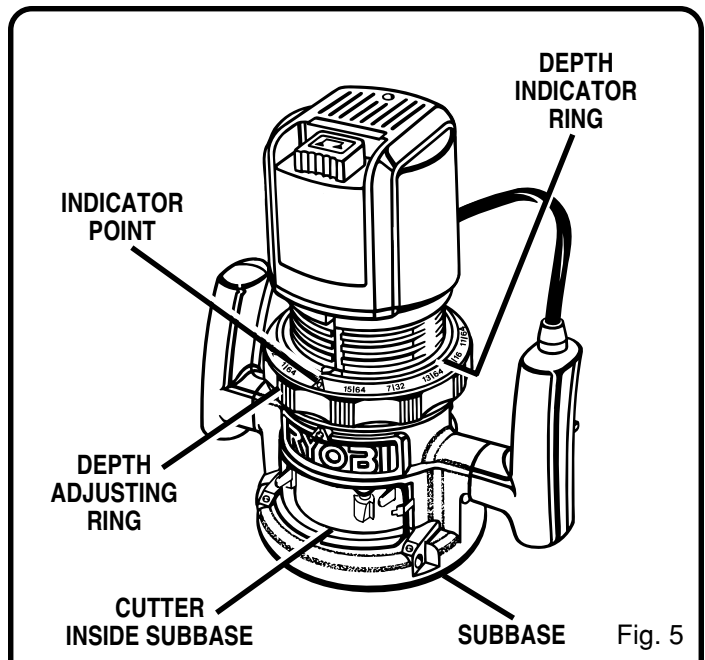
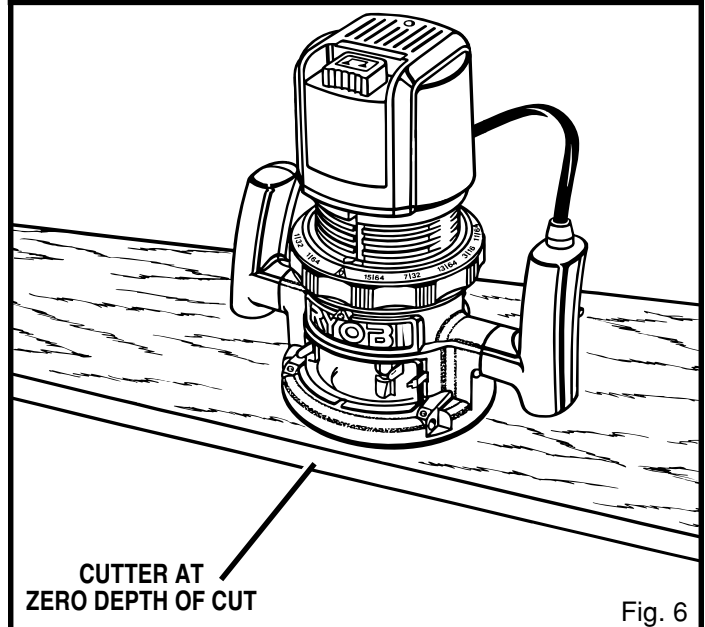

Fig. 5
Fig. 6
3. Turn the depth adjusting ring until tip of cutter touches flat surface (zero depth of cut). See Figure 6. Next turn depth indicator ring until the zero lines up with the indicator point on front of motor housing. See Figure 5.